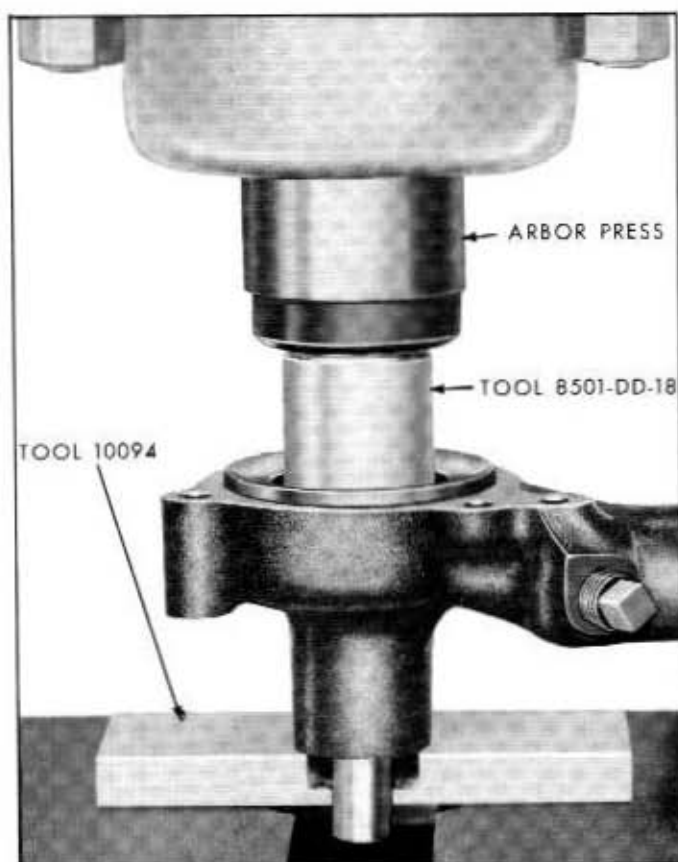

Fig. 6B-9—Seal Installation—(60C-6006)
- Position the pump on an arbor press and use Tool 8501-DD-19 to press the shaft and bearing out of the housing. See figure 6B-6.